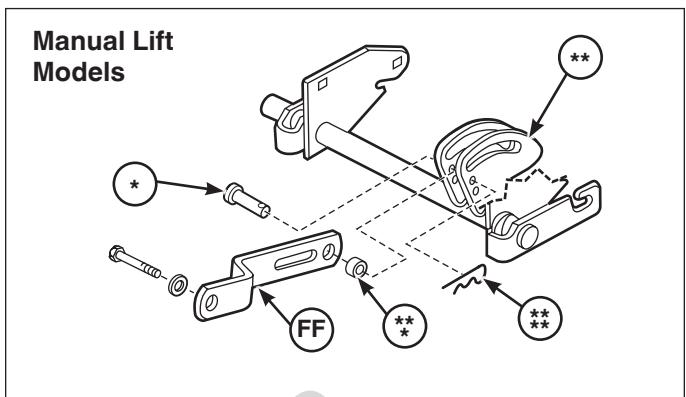

**Figure 4**
2. Loosen the manual lift adjustment bolt (\*, Figure 4) until the bolt can be slid out of the groove in the bulkhead. Remove the spring and bolt and set aside.
7. Reinstall the manual lift adjustment bolt (Figure 4) in the bulkhead and tighten.